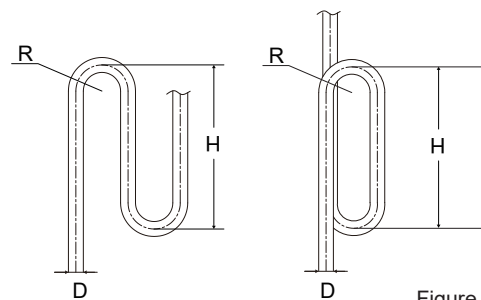

Figure 4.8
When the outdoor unit is above the indoor unit, and the level difference exceeds 20 m, it is recommended that an oil return bend be set up at every 10 m interval on the gas pipe of the main piping. The recommended specifications of the oil return bend are shown in Figure 4.8.
- Requirement 3:** The largest level difference between indoor unit and outdoor unit should not exceed 110m (if the outdoor unit is above) or 110m (if the outdoor unit is below). Additionally: (i) If the outdoor unit is above and the level difference is greater than 20m, it is recommended that an oil return bend with dimensions as specified in Figure 4.8 be set every 10m in the gas pipe of the main pipe; and (ii) if the level difference is more than 40m (outdoor unit is below) or 50m (outdoor unit is above), the size of the main pipe (L1) should be increased as Table 4.7.